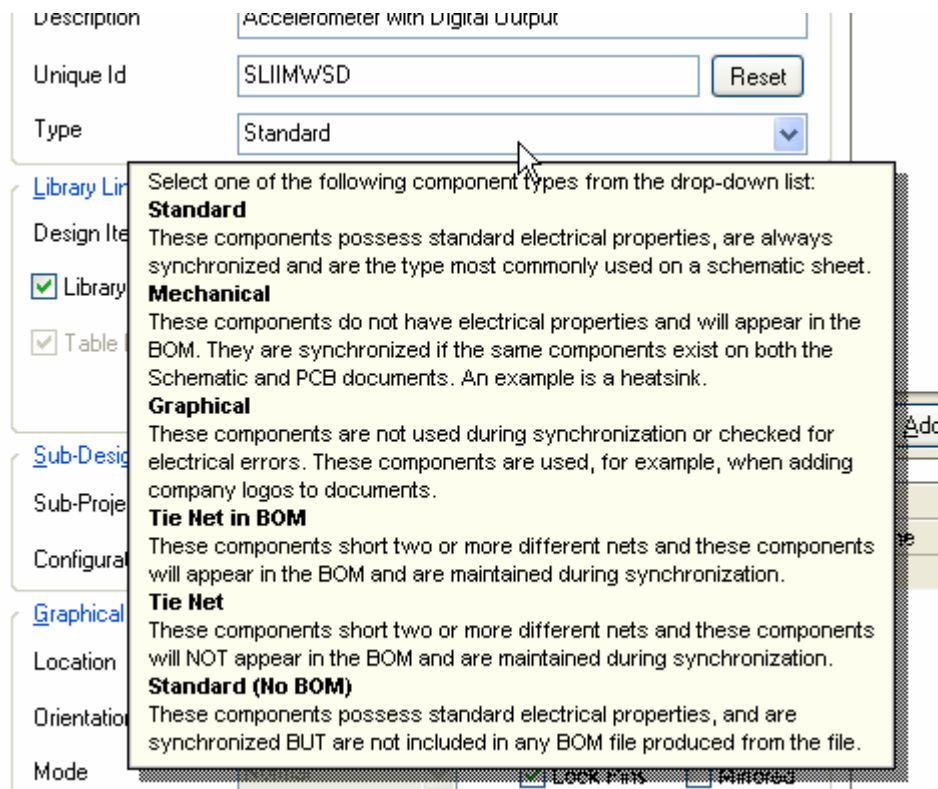

Figure 10. Using the What's This Help icon to gain help in a dialog
- You'll find nearly all dialogs will have a question mark icon in the top right hand corner.  Clicking on this icon activates the **What's This Help** (WTH) feature and will display a brief pop-up help message from the next control that you click on. For example, Figure 10 shows the WTH for the **Type** control in the component properties dialog.